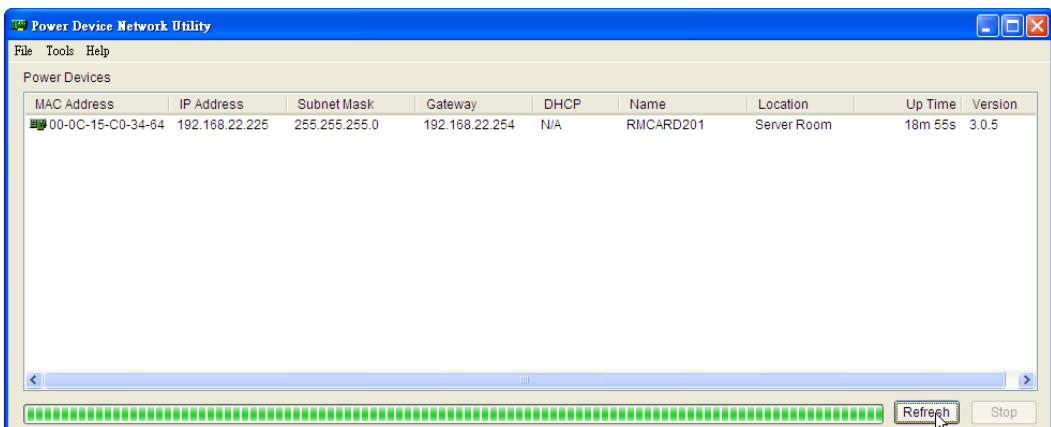

Figure 1. The main window of the “Power Device Network Utility” program.
3. The main dialog of the "Power Device Network Utility Tool" program is shown in Figure. 1. The configuration tool will display all CyberPower Remote Management Cards of present on the same network. The "Refresh" button is used to search the entire local network for Remote Management Cards.